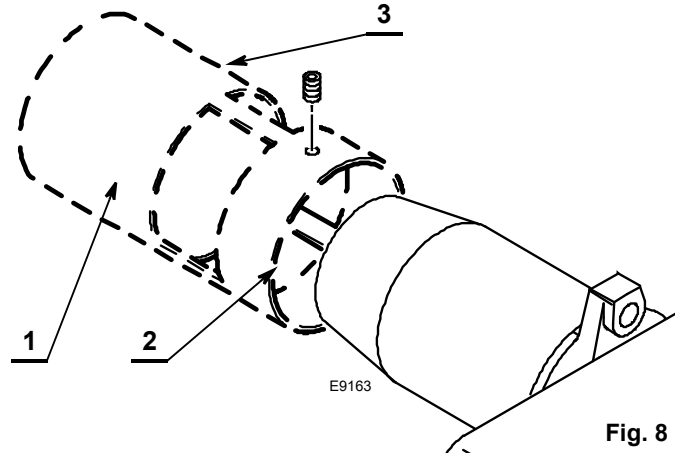

Fig. 8
- Fit the recirculation pipe 1) (Fig. 8) onto the burner blast tube 2) and secure it with the screw 3).